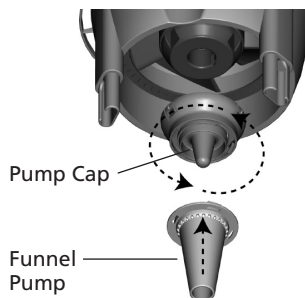

Figure 16a
4. Assemble the Pump Cap and the Funnel Pump by aligning the arrows on both components and inserting the Funnel Pump into the Pump Cap. Twist the Funnel Pump counter-clockwise until the two components snap together. See figures 16a and 16b.